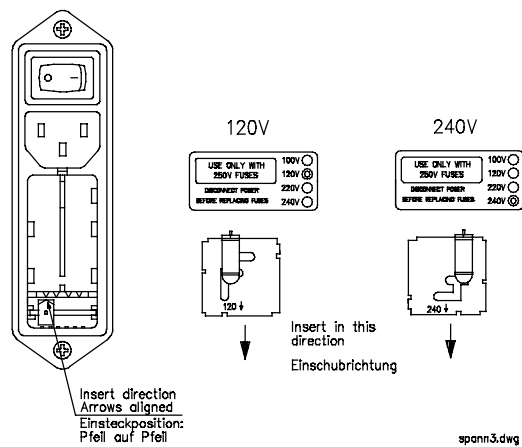

Fig. 2: Voltage selection
- Place the board (writing facing up) under the required voltage selection, as shown in fig. 2.
- Turn the board so that the voltage selection can be seen, as shown in fig. 2.
- Adjust the plastic clip as shown in fig. 2 (without turning the board). Ensure that the clip locates in the notch on the board.
- Now, replace the voltage selection board all the way back into the power supply module (→ fig. 2).